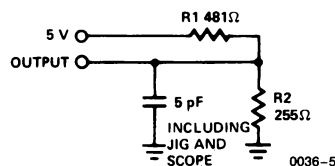

Figure 1b
- t_{HZOE}, t_{HZCE} and t_{HZWE} are tested with C_L = 5 pF as in Figure 1b. Transition is measured ± 500 mV from steady state voltage.